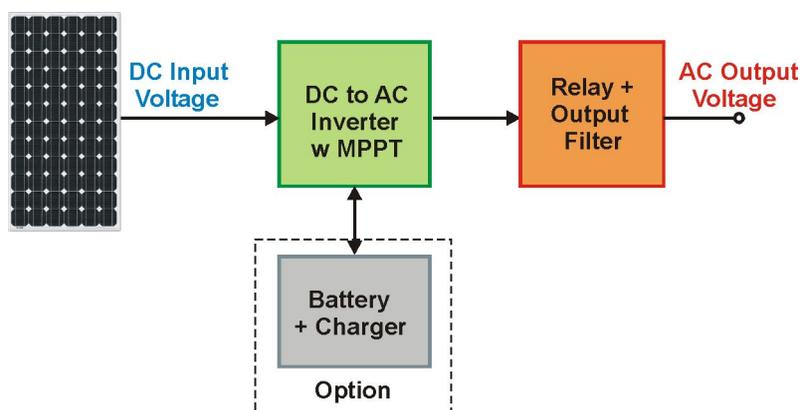

Figure 1. Block schematic
The photovoltaic (PV) solar panels are one of the important energy harvesting devices from the Sun. The conversion of the solar photo energy to the electrical energy is based on the modified P-N barrier. One PV cell produces the DC voltage in range of 0.5–0.6 V. The solar cells in the serial connection are mounted to the solar panels. The output voltage of the solar panels reaches up to 50 V or more. The solar inverter is the device, which converts this low DC voltage to the power line level AC voltage. The simple block schematic is shown in Figure 1.